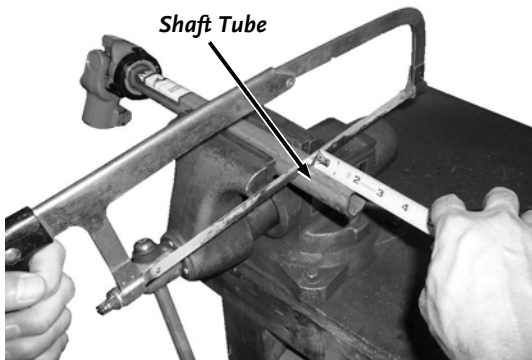

Figure 27
4. Measure and cut each Shaft Tubes to the required length using the hacksaw (**Figure 27**).